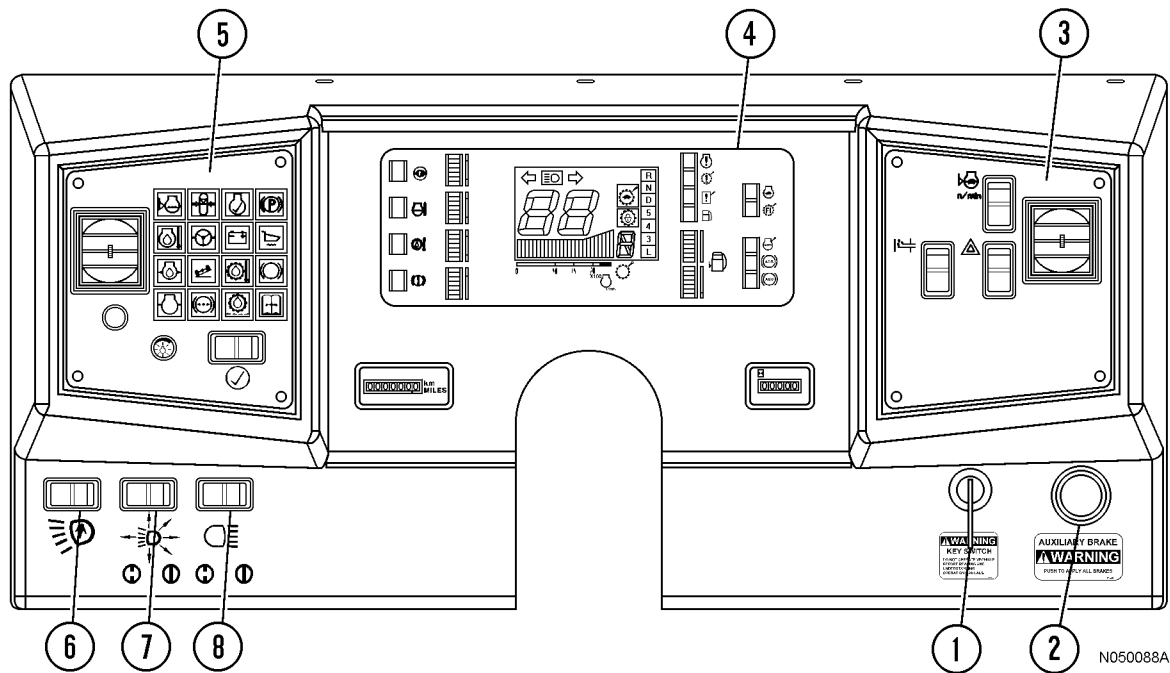
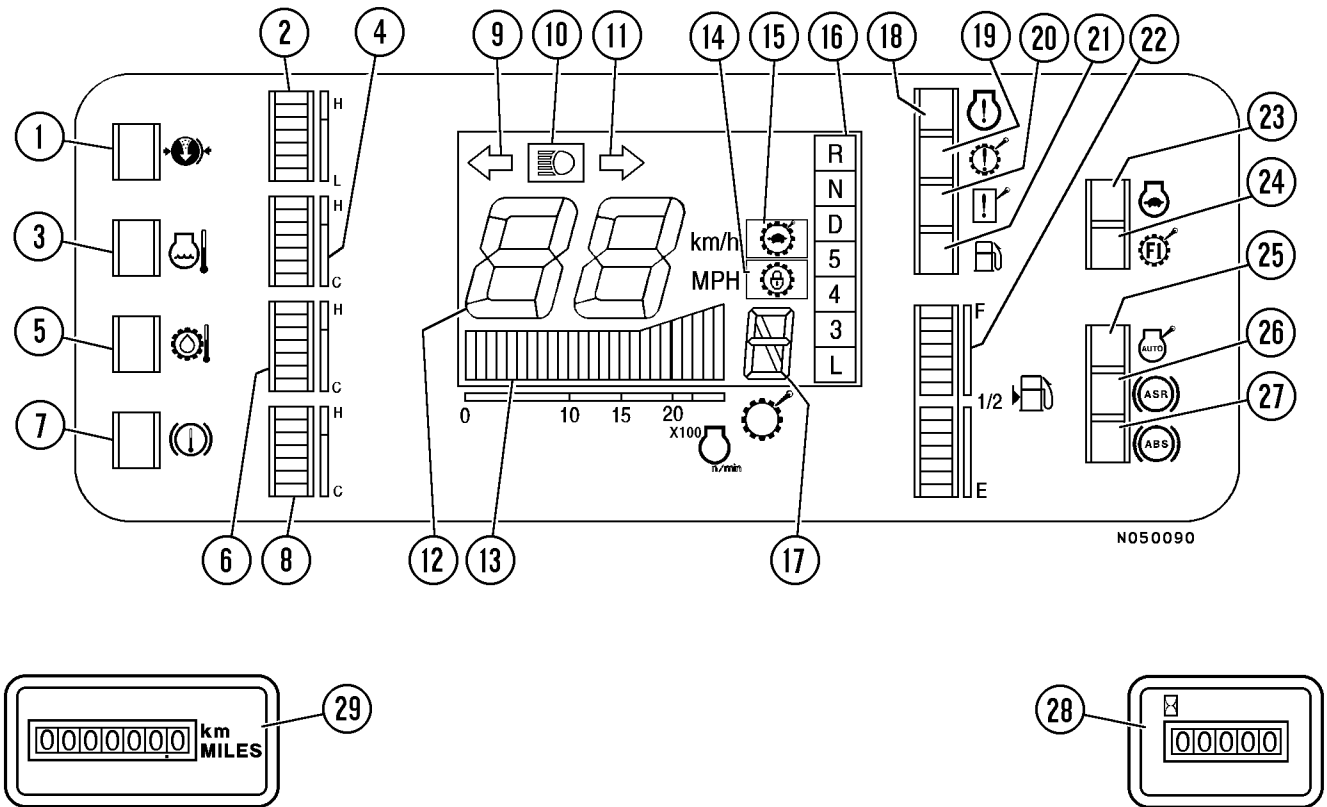

FIGURE 32-6. INSTRUMENT PANEL
FIGURE 32-8. CENTER DISPLAY PANEL
Keyswitch (1, Figure 32-6) is a three position (OFF, RUN, START) switch.
Auxiliary brake switch (2, Figure 32-6) applies the auxiliary brake.
RH control/indicator panel (3, Figure 32-6), located to the right of the steering wheel, provides an array of switches and controls. For detailed information on this assembly, refer to RH Control/Indicator Panel (Pod) later in this section.
Center display panel (4, Figure 32-6) provides an array of gauges and monitors, with an odometer module) and a service/hour meter module. For detailed information on this assembly, refer to Center Display Panel later in this section.
LH control/indicator panel (5, Figure 32-6), located to the left of the steering wheel, provides an array of indicator/monitor lights and three switches. For detailed information on this assembly, refer to LH Control/Indicator Panel (Pod) later in this section.
Ladder light switch (6, Figure 32-6) turns the ladder lights on or off after or before using the ladder. A similar switch is available at ground level to turn the ladder lights on or off.
The instrument panel lights, clearance lights, and the headlights are controlled by this three position rocker type switch (7, Figure 32-6). OFF is selected by pressing the left side of the switch. Press the right side of the switch until it reaches the first detent (middle) to select the panel, clearance, and tail lights, only. Press the right side of the switch again, until it reaches the second detent to select the headlights, as well as panel, clearance, and tail lights.
Backup/deck light switch (8, Figure 32-6) allows backup lights to be turned on providing added visibility and safety when the transmission range selector lever (see Operator Controls) is not in the REVERSE position.
RH control/indicator panel (3, Figure 32-6), located to the right of the steering wheel, contains the following:
Center display panel (4, Figure 32-6) consists of a gauge and monitor module (1 - 27, Figure 32-8), with an odometer module (29) and a service/hour meter module (28). Liquid crystal is used for the display area.
Air pressure monitor (1, Figure 32-8) is not used on this truck.
Air pressure gauge (2, Figure 32-8) is not used on this truck.
Coolant temperature monitor (3, Figure 32-8) indicates a rise in the cooling water temperature.
Engine cooling water temperature gauge (4, Figure 32-8) indicates the temperature of the cooling water. If the temperature is normal during operation, the green range will light. If the red range lights during operation, the alarm buzzer will sound, the central warning lamp will flash and the coolant temperature monitor lamp will flash at the same time. If this occurs, stop the machine and operate the engine with no load at 1200-1500 rpm until the green range lights.
Torque converter oil temperature monitor (5, Figure 32-8) indicates a rise in the torque converter oil temperature.
Torque converter oil temperature gauge (6, Figure 32-8) indicates the temperature of the torque converter oil. If the temperature is normal during operation, the green range will light. If the red range lights during operation, the alarm buzzer will sound, the central warning lamp will light up and the torque converter oil temperature monitor lamp will flash at the same time. If this occurs, stop the machine and run the engine with no load at 1200-1500 rpm until the green range lights.
Retarder oil temperature monitor lamp (7, Figure 32-8) indicates the retarder oil temperature has risen.
Retarder oil temperature gauge (8, Figure 32-8) indicates the temperature of the retarder cooling oil. During normal operation, the green range should be illuminated.
When the turn signal lever is moved downward, left turn signal pilot lamp (9, Figure 32-8) flashes.
High beam pilot lamp (10, Figure 32-8) lights up when the head lamps are on high beam.
When the turn signal lever is moved upward, right turn signal pilot lamp (11, Figure 32-8) flashes.
Digital speedometer (12, Figure 32-8) indicates the travel speed of the truck in miles per hour, or kilometers per hour. This figure will appear momentarily when the keyswitch is first turned ON to demonstrate that all segments are working.
Tachometer (13, Figure 32-8) indicates 0-2500 rpm engine speed. Each bar represents 100 rpm.
Engine control monitor (18, Figure 32-8) flashes (red) whenever any abnormality occurs in any of the engine control systems.
Lock-up pilot lamp (14, Figure 32-8) lights up (blue) whenever the torque converter is locked up and the transmission enters direct drive.
This red indicator (19, Figure 32-8) flashes whenever any abnormality occurs in the mechatronics related parts of the transmission control system.
Shift limiter pilot lamp (15, Figure 32-8) lights up (blue) whenever the shift limiter switch (on center console) is activated.
This red indicator (20, Figure 32-8) flashes whenever any abnormality occurs in the mechatronics related parts of the PMC (Powertrain Management Control) system, RCM (Retard Control Monitor) system, PLM (PayLoad Meter) system, and the suspension control system.
Shift indicator (16, Figure 32-8) indicates the lever position of the transmission range selector.
This red indicator (21, Figure 32-8) flashes whenever the remaining fuel in the fuel tank falls below 150 liters (40 gal.).